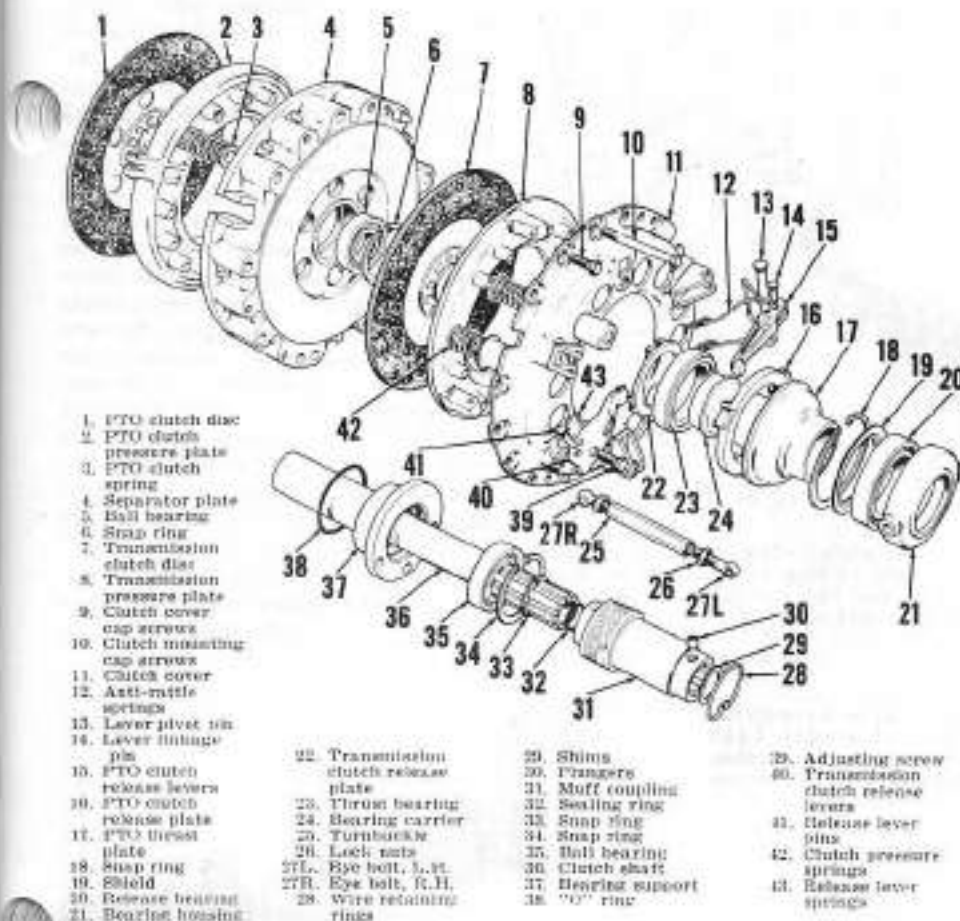

Fig. 98 — Exploded view of model 1200 clutch. A separate release bearing, plate and release levers are used for each clutch unit.
Remove the two wire rings (28—Fig. 98) from ends of muff coupling (31) and extract the two plungers (30). On six-speed models, disengage snap ring at rear end of muff coupling and slide the snap ring and coupling rearward until coupling is disengaged from clutch shaft (36). On 12-speed transmissions, disengage snap ring at front side of muff coupling and slide snap ring and coupling forward until coupling is disengaged from transmission input shaft. Be sure not to lose any shims (29) from transmission input shaft. On all models, unbolt the clutch shaft brake unit (see Fig. 102), remove the coupling (18) and let brake unit hang on muff coupling. Remove pivot bolt from left side of PTO clutch release fork and the cotter pin from right hand side of fork. The PTO clutch release levers must be kept from moving by fastening them to clutch cover using special hooks (part No. 962188) or wire. Remove the nine long bolts (10—Fig. 98) retaining clutch assembly to flywheel; caution should be taken not to remove any of the six short cap screws (9) retaining clutch cover (11) to separator plate (4). Lift the clutch assembly with clutch release bearings,
143. With clutch removed as outlined in paragraph 142, withdraw clutch shaft with release bearings, bearing support and related parts from clutch unit. Remove engine flywheel and place flywheel on bench with clutch friction surface up. Place PTO friction disc on flywheel, then install clutch assembly on flywheel using nine 5/16 UNC x 7 inch stud bolts, flat washers and nuts. Remove the six cap screws retaining clutch cover to separator plate, disconnect PTO release levers (15—Fig. 98) from eye bolts (27L) and disconnect the transmission clutch release levers (40) from lugs on transmission clutch pressure plate (8). Hold the stud bolts from turning while evenly loosening the nuts. When free of all spring pressure, remove the nuts and disassemble clutch.
Early clutches were fitted with cap screws (39—Fig. 98) in transmission clutch release levers. Where cap screws are encountered in this location, it is recommended that they be
Fig. 99 — Views showing "old type" and "new type" PTO clutch linkage turnbuckle, eye bolts and lock nuts. Parts are interchangeable in complete sets of three only as different weight of old and new units would throw clutch out of balance if only one unit was renewed with different type. Refer to Fig. 98 for legend.